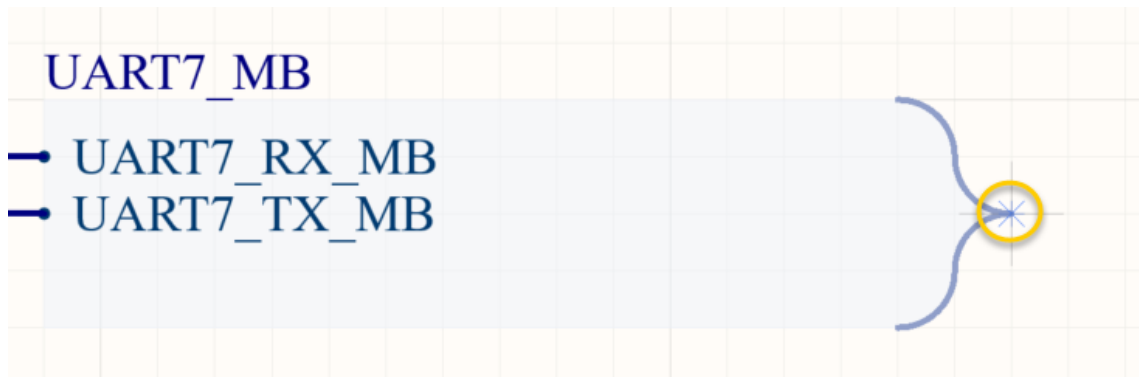

Figure 9. Place Signal Harness on Harness Connector
- a) Left-click on the electrical hotspot of the Harness Connector to anchor the Signal Harness as shown in Figure 9.